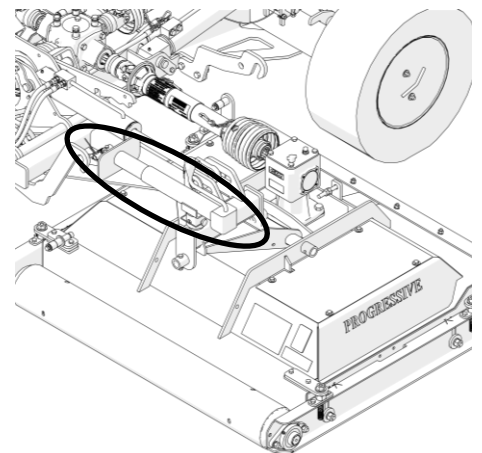

Figure 4
- 5) Raise parking jack fully and place in storage position (Figure 4).
The jack cannot be stowed in the parked position while mowing. A second storage position is provided on the Left-hand deck to avoid damage to the jack while mowing (Figure 4).